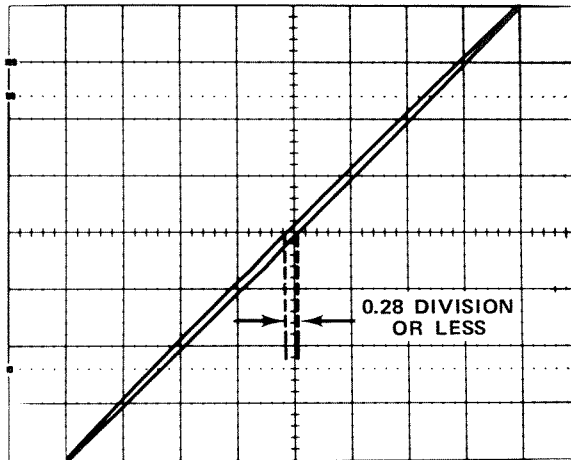

Figure 5-5. Typical crt display when checking X-Y phase shift.
- e. CHECK—The lissajous display for an opening at the center vertical line of 0.28 division or less (indicates two degrees or less of phase shift; see Figure 5-5).